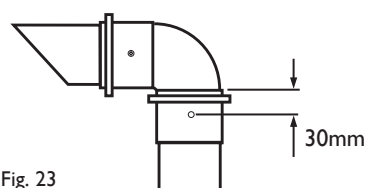

Fig. 23
13. Mark and drill the 60mm exhaust, using a 2mm bit, as shown in Fig. 23. Complete the installation of the 60mm exhaust, securing in the brackets.